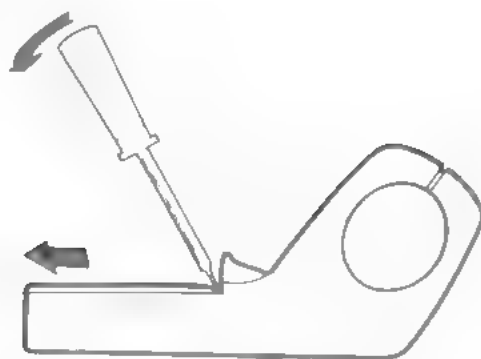

Figure 4-1. Battery Removal
3. Insert the tip of a narrow flat-bladed screwdriver, into the slot located just behind the jaw trigger. (See Figure 4-1.)
1. Open the battery door and remove the battery. (See Figure 4-1 for the location of the battery door.)